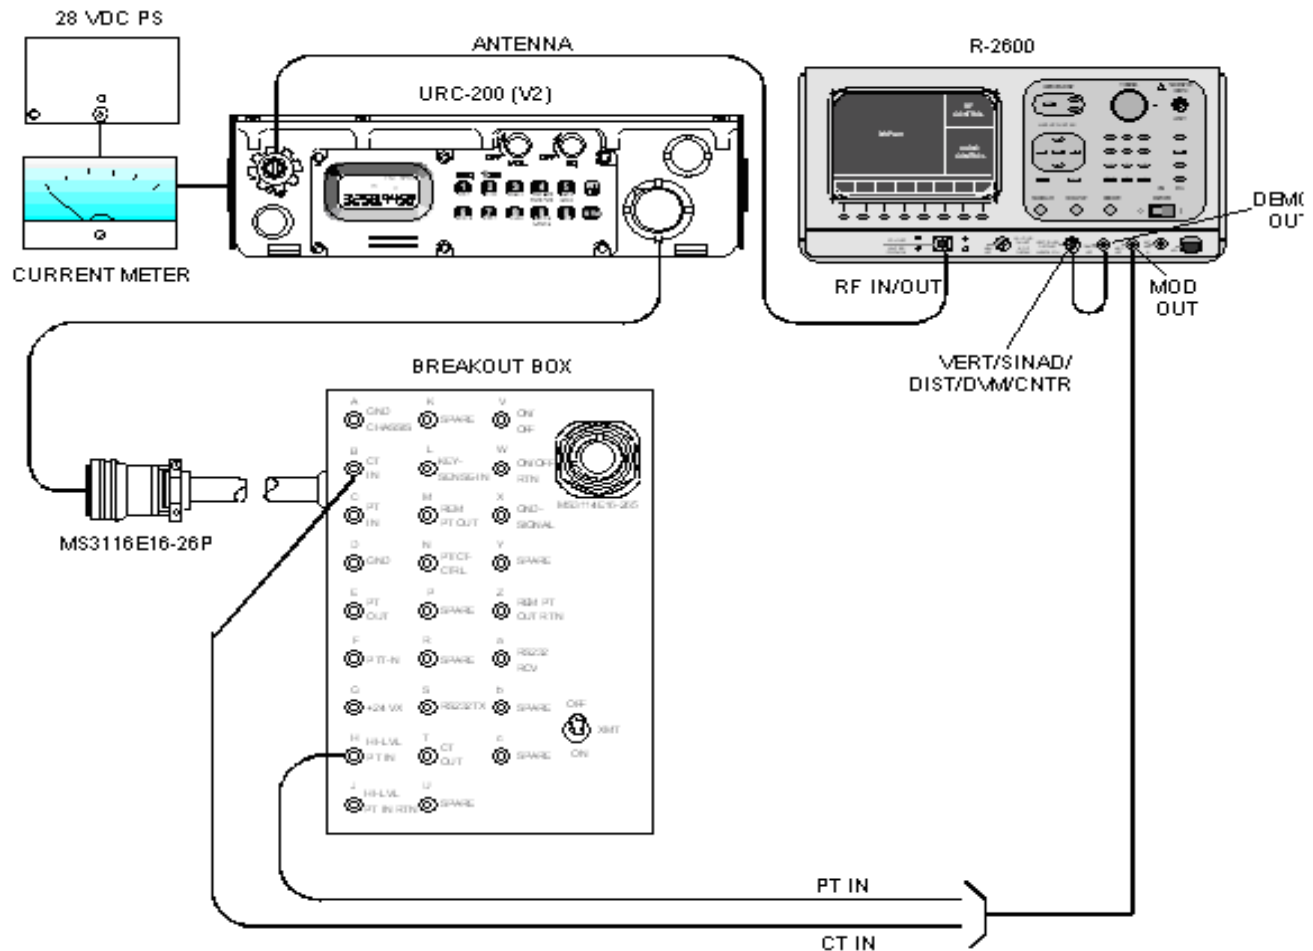

Figure 17 - Transmitter Test Setup
1. Set up the test equipment as shown in Figure 17. Connect the VERT/SINAD/DIST/DVM/COUNTER IN connector to the DEMOD connector on the R2600. For now, do not connect the R2600 MOD OUT port to either pins B or H of the Remote connector on the URC-200 (V2). Also for now, do not connect the PTT (Push-to-Talk) line (pin F) to ground.
- 1. Set up the test equipment as shown in Figure 17.